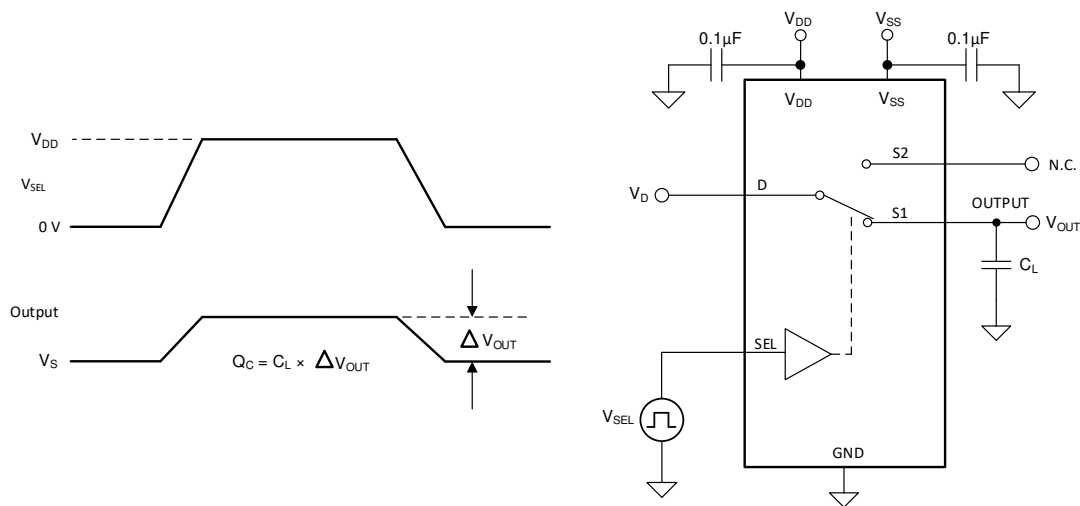

图 21. Charge-Injection Measurement Setup
The TMUX1119 has a transmission-gate topology. Any mismatch in capacitance between the NMOS and PMOS transistors results in a charge injected into the drain or source during the falling or rising edge of the gate signal. The amount of charge injected into the source or drain of the device is known as charge injection, and is denoted by the symbol Q_C . 图 21 shows the setup used to measure charge injection from Drain (D) to Source (Sx).